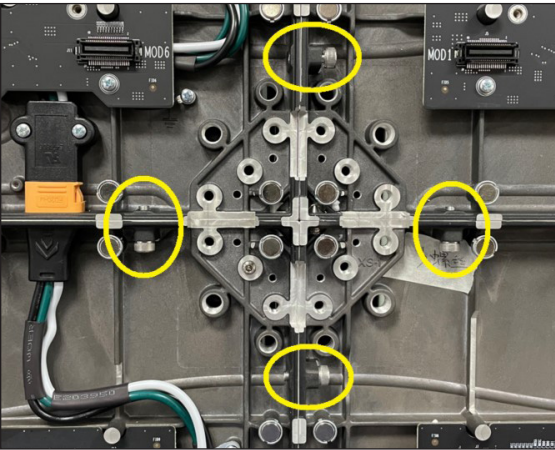

Figure 16: Assemble Panels with Screws
- 6. Use a 5 mm Allen wrench and socket-head stitch screws (circled in yellow) to attach the panels together, but do not tighten the screws. Refer to **Figure 16**.